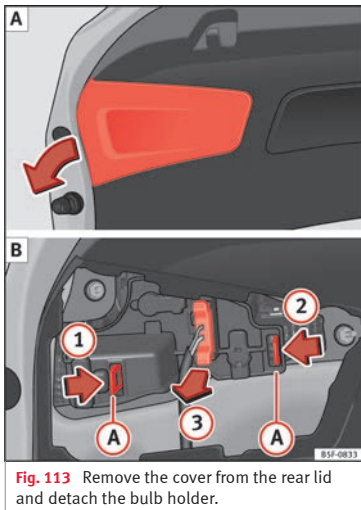

Fig. 113 Remove the cover from the rear lid and detach the bulb holder.
- Remove the rear lid cover in the direction indicated by the arrow »» **Fig. 113 A**.
- Unlock the retaining tabs **A** of the bulb holder, following the direction of arrows **1** and **2** »» **Fig. 113 B**.
- Remove the bulb holder by turning it in the direction of arrow **3** »» **Fig. 113 B**.
- Reinstall the bulb holder making sure that locking clips **A** »» **Fig. 113 B** are properly clipped.